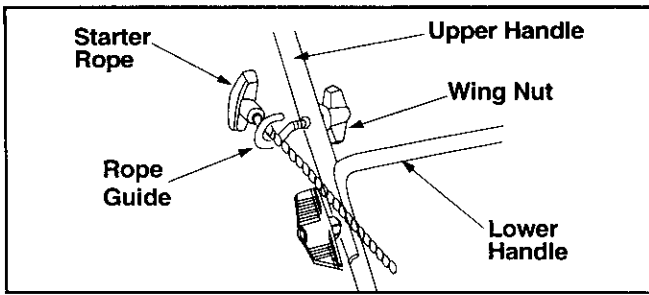

Figure 5
- The rope guide is located on the right side of handle and is secured by a wing nut. See Figure 5.